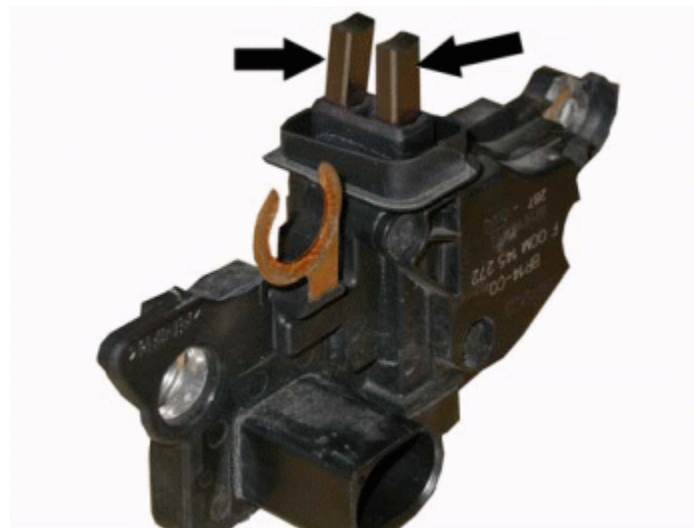

Figure 16
- Ensure the carbon brushes (arrows, Figure 16) are not damaged during the installation procedure.